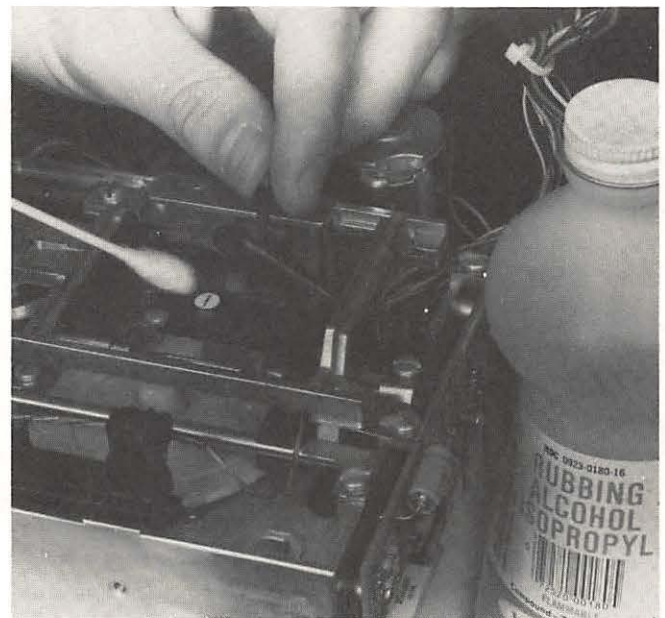

Fig. 8-11. This way to clean your read head is dangerous unless you wrap the cotton swab with a lint-free material.
6. Drive heads can also be cleaned with alcohol and a cotton swab wrapped in a lint-free material (see Fig. 8-11). With manual alcohol and swab cleaning, you could accidentally scrub the pressure pads by mistake, causing more problems than you're preventing. But, if you're careful, manual cleaning can be effective.